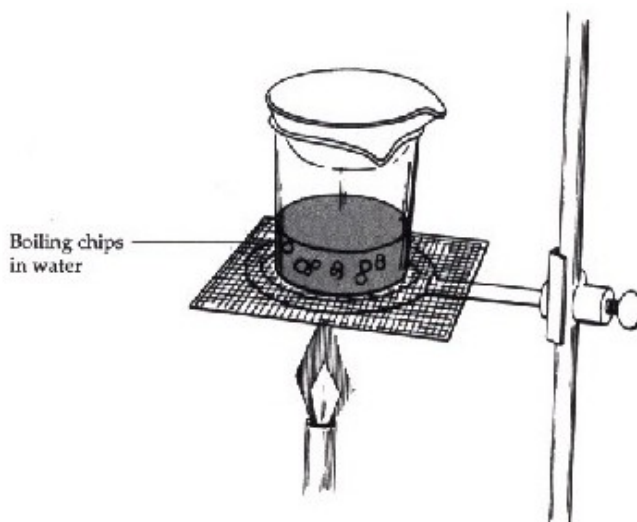

Figure 3
- Using the energy from steam, evaporate the **ethanol** from the evaporating dish according to the setup as in Figure 3 below.
- Using the energy from steam, evaporate the **deionized water** from the evaporating dish according to the setup as in Figure 3.